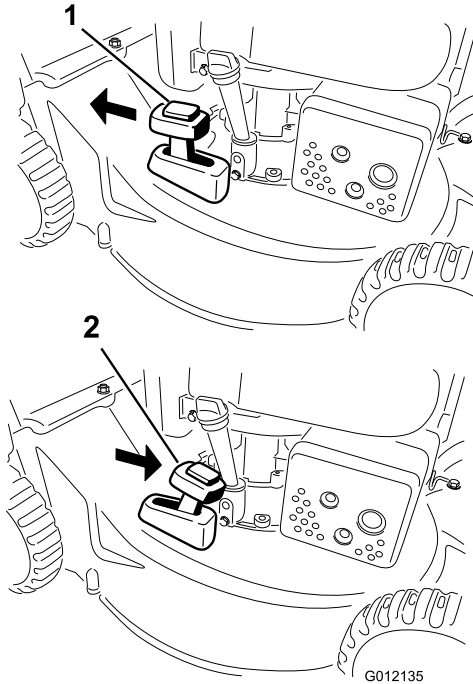

Figure 15
2. Press the button on top of the Recycling/bagging lever and move the lever to the **recycling** mode (model 20836 only) (Figure 15).
2. To bag the grass clippings, install the grass bag (refer to Installing the Grass Bag). Press the button on top of the Recycling/bagging lever and move the lever to the **bagging** mode (model 20836 only) (Figure 15).
Note: The Recycling/bagging lever should be in the bagging mode (Figure 15).